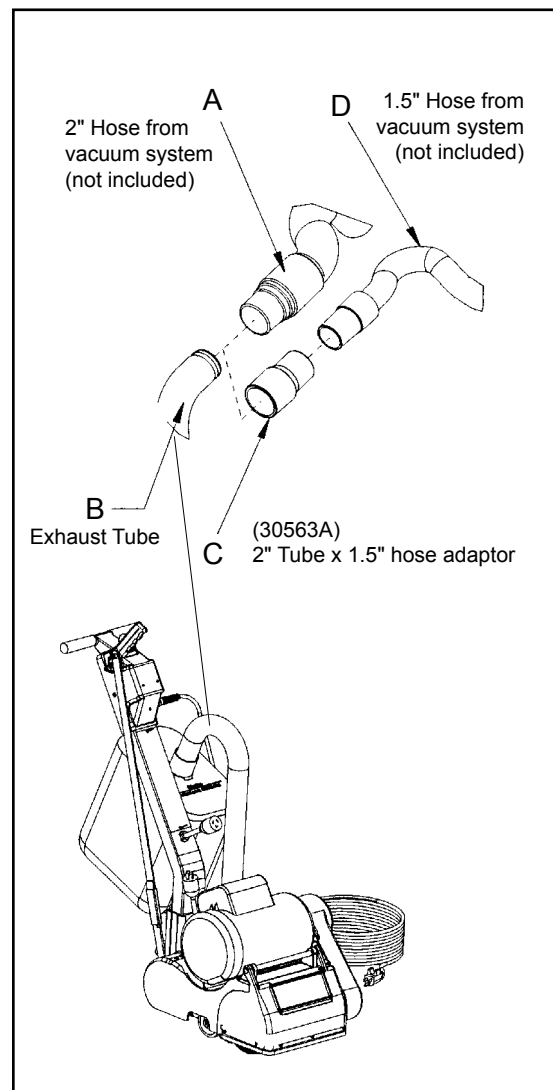

Figure 9
1. Install 2" hose end (figure 9, A) directly over the exhaust tube (figure 9, B).
1. Install the 2" x 1½" hose end adaptor (Part No. 30563A) (figure 9, C) over the exhaust tube (figure 9, B).
2. Insert 1½" hose end (figure 9, D) into the adaptor (figure 9, C).